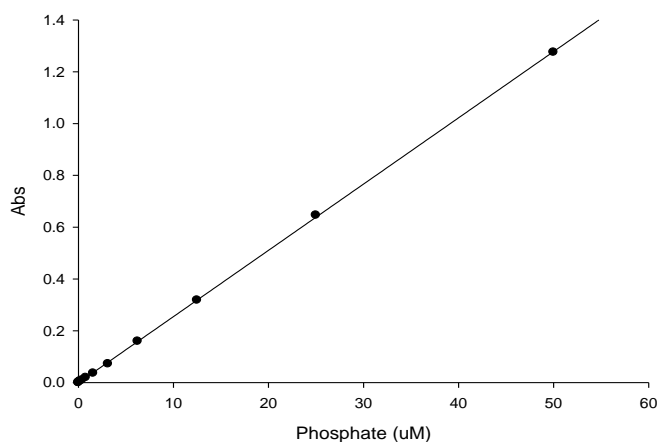

Figure 1. The linear range of MG phosphate assay
The SensoLyte[®] MG Phosphate Assay Kit is based on the quantification of the blue-green complex formed between malachite green (MG), molybdate and free phosphate. The rapid color formation from the reaction can be conveniently measured on a spectrophotometer (600nm-660 nm) or on an absorbance plate reader (Figure 1). The assay involves a single reagent addition step for phosphate determination and takes only 10 minutes for color development. There is no precipitate formation, so extract filtration step is not necessary. The assay can be conveniently performed in a 96 or 384-well format for high throughput screening of phosphatase activators or inhibitors with a Z' factor of 0.7 to 0.9. It can also be performed in tubes and cuvettes by proportionally scaling up the amount of assay reagents. The assay has been widely used to quantify the liberated phosphate in phosphatase assays, lipase assays, and nucleotide triphosphatase assays.
4.2 Plot the phosphate standard as Abs (absorbance unit) versus concentration (Figure 1).